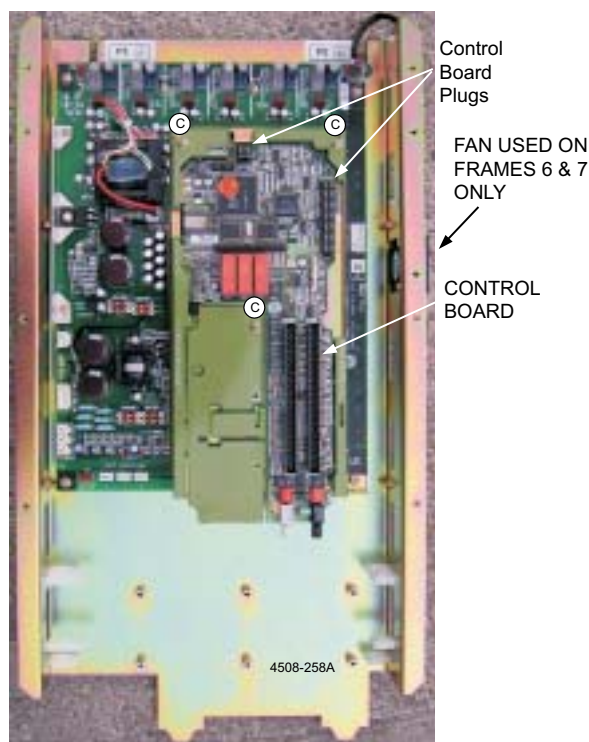

Figure 6.6: Frame 5 to 7 Power Tray and Control Board
- 6) Referring to Figure 6.6, the Control board is held by the Phillips screws C, 3 off M4x10 screws. Remove these and lift the control board vertically off the connecting pins.
- 10) Gently push the 6 pin connector down slightly and repeat the process with the 40 pin connector. When this is completed, check through the slots to ensure no connecting pins are showing or damaged then push the Control board completely home. Replace the 3 off M4x10 Phillips screws as per figure 6.6.